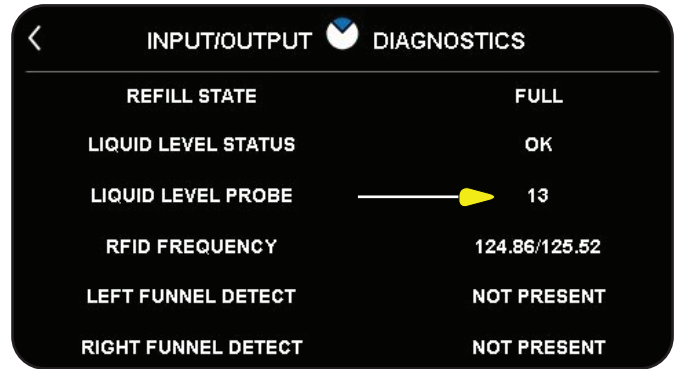

FIG. 35-3 LEVEL PROBE A/D LOW #
4. **Liquid Level Probe:** Shows the A/D (analog signal converted to digital format) count of the liquid level probe. (Fig. 35-3 & 35-4)